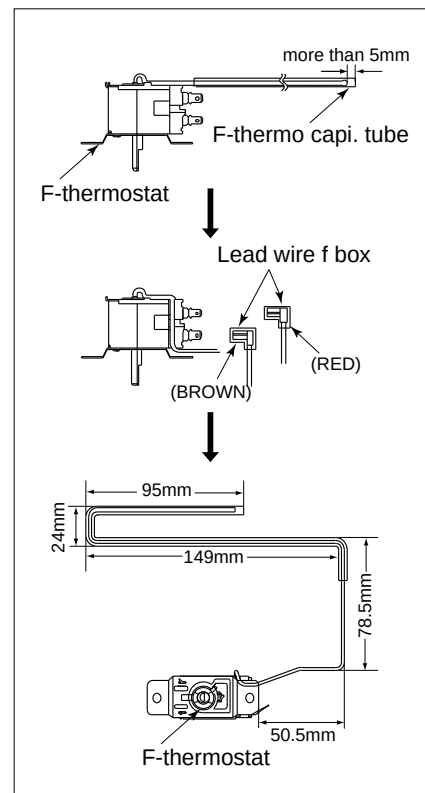
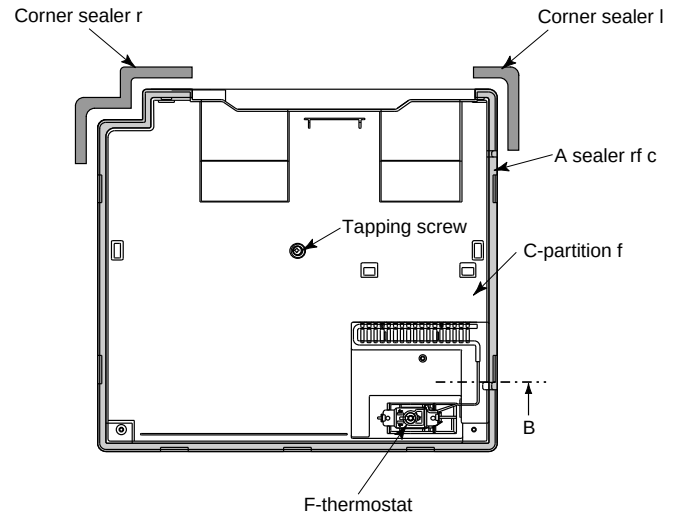
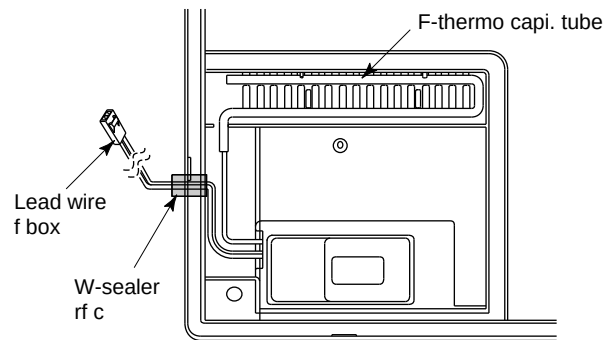

Figure A-3
Figure A-4
Figure A-5
4. Form capillary tube of F-thermostat as shown Figure A-3, hook each side the claw of C-partition f. (Figure A-4)
5. Form the end of capillary tube of F-thermostat and fix with claw as shown. (Figure A-4 or Figure A-5)
6. Stick W-sealer rf c . (Figure A-5)
11. Stick W-sealer fr a and Drain sealer a and Corner sealer r&l on outside of "10" ass'y. (Figure A-4,A-7)